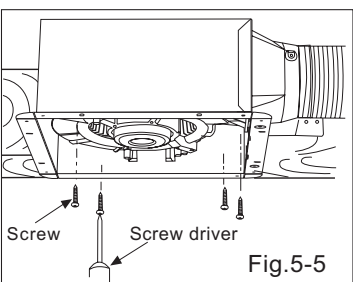

Fig.5-5
8. Secure the blower by 4 screws as shown in Fig.5-5.